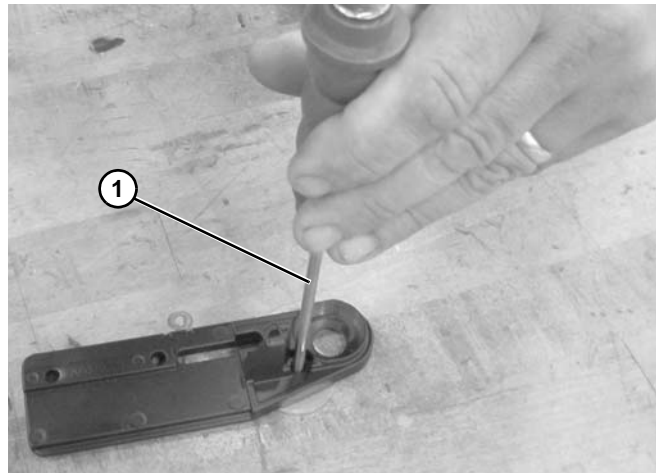
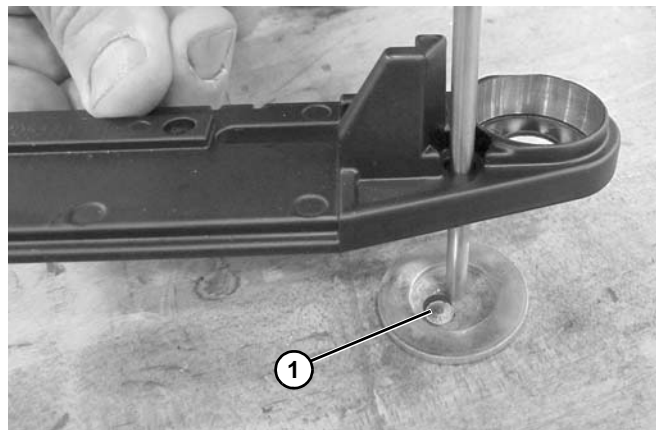

Figure 95
Figure 96
4. Repeat the same operation to knockout (**Figure 96, item 1**) for alignment screw hole using 1/8" - 3/16" punch (**Figure 95, item 1**) or M5 - M6 bolt.